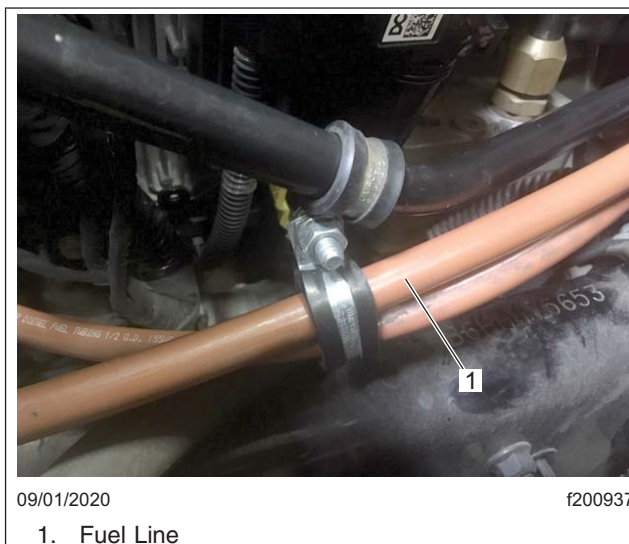

Fig. 14, Securing the Fuel Line
18. Install the fuel lines on the bracket at the rear of the engine using the original clamp and fasteners. Install the front fuel line clamp and the transmission dip stick tube clamp using the original clamps and fasteners. See Fig. 14.